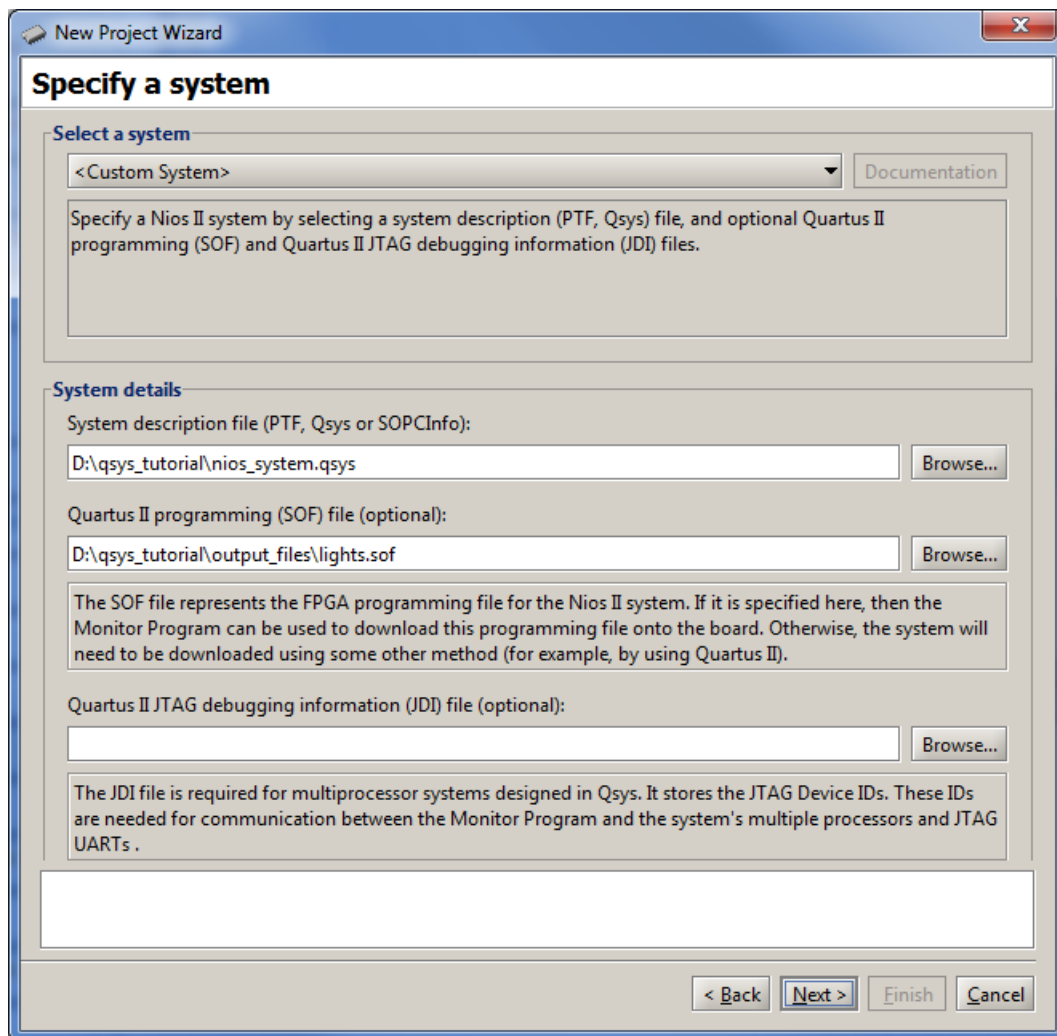

Figure 28. The System Specification window.
2. Enter *lights_example* (or some other name) as the Project name and click **Next**, leading to Figure 28.